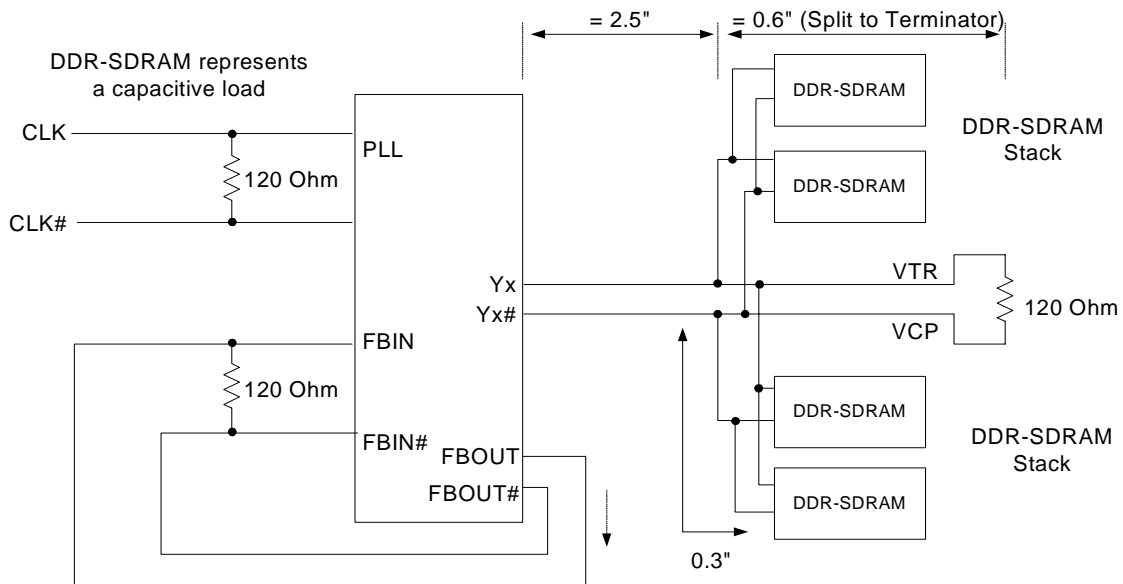

Figure 2. Clock Structure 2^[2]
9. All differential input and output terminals are terminated with 120 Ω /16 pF as shown in *Figure 2*.